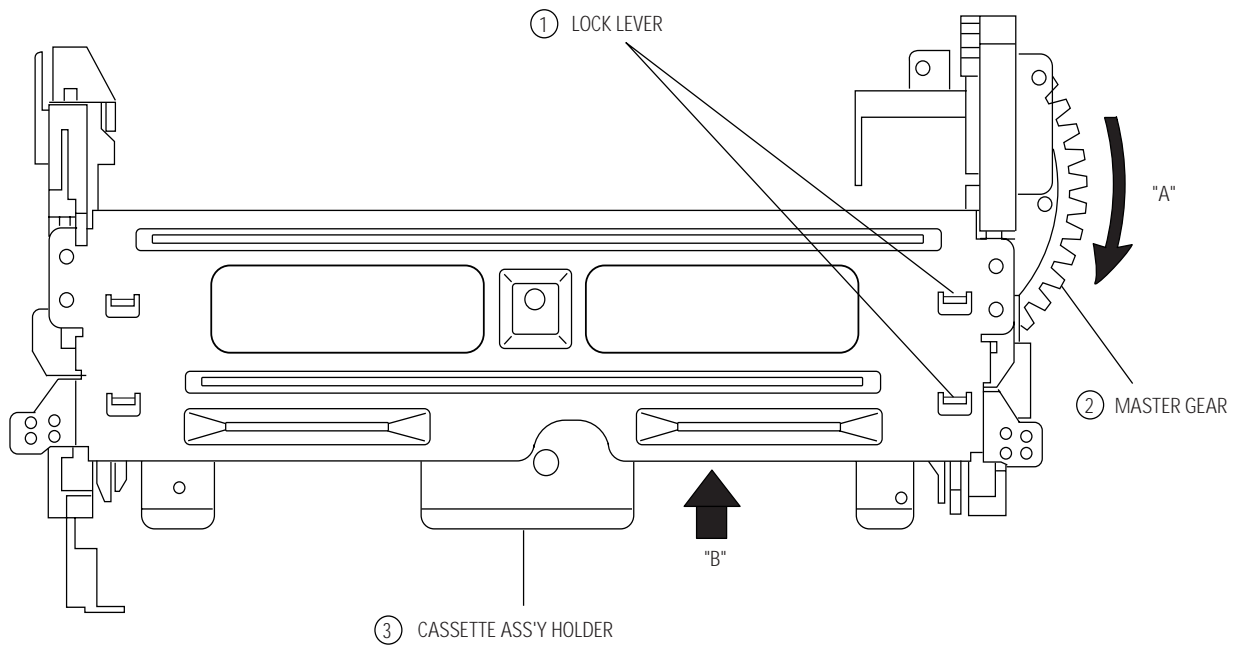

Fig.4-59 How to operate the Housing Ass'y
1. Push 4 Lever Locks ① of the Housing Ass'y Simultaneously. (Refer to Fig. 4-59)
2. Push the Cassette Ass'y Holder ③ toward arrow "B" while turning the Master Gear ② toward arrow "A". (Refer to Fig. 4-59)
3. Load the Loading L, R Gear Ass'y ④, ⑤ to the middle position of Guide Rail by turning the Master Gear ② toward arrow "A". (Refer to Fig. 4-59, 4-60)